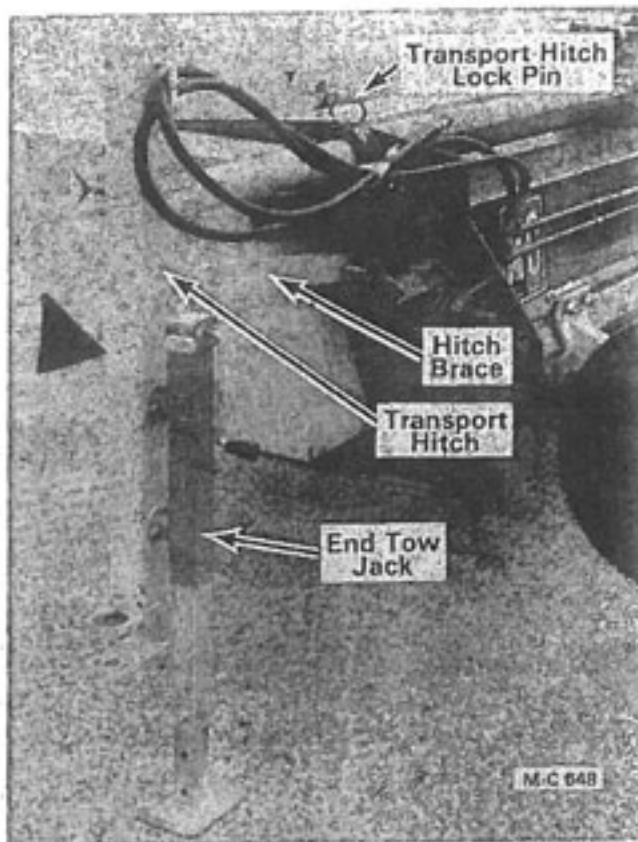

Figure 15G
3. Pull the transport hitch assembly out and install the lock pin, see Figure 15G. Secure the lock pin with the clip. Connect the transport hitch brace to the Shredder.